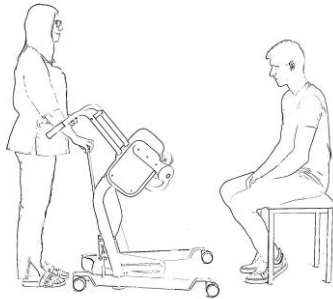

Fig. 1
- 3 Adjust the flexible base of the Mover – Flexi, if needed, and approach the patient. (See Fig. 1.)